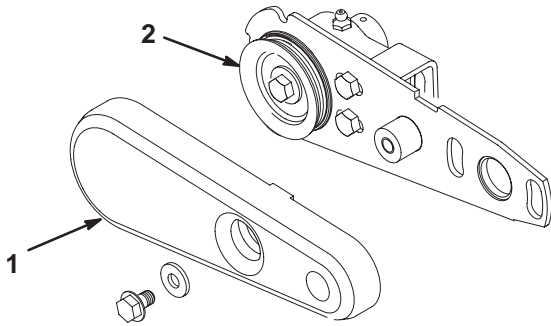

Figure 4
- Remove the plastic belt cover from the brush kit drive assembly (Fig. 4).